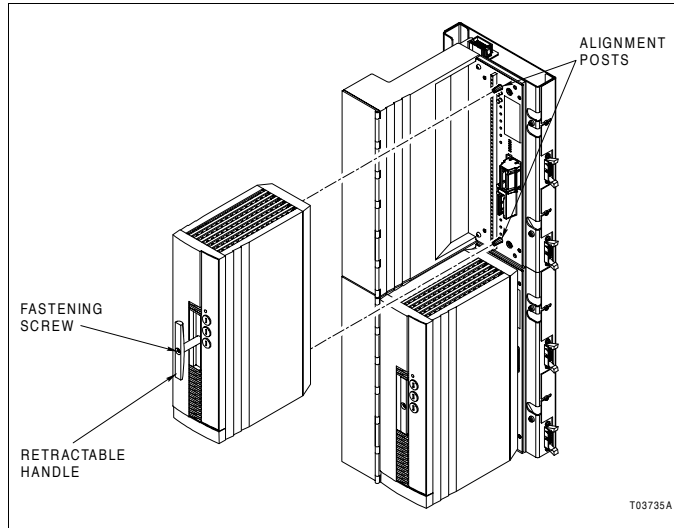

Figure PR10-1. SIM-100 Module Removal
-  2. Loosen the captive front panel fastening screw (Fig. PR10-1).